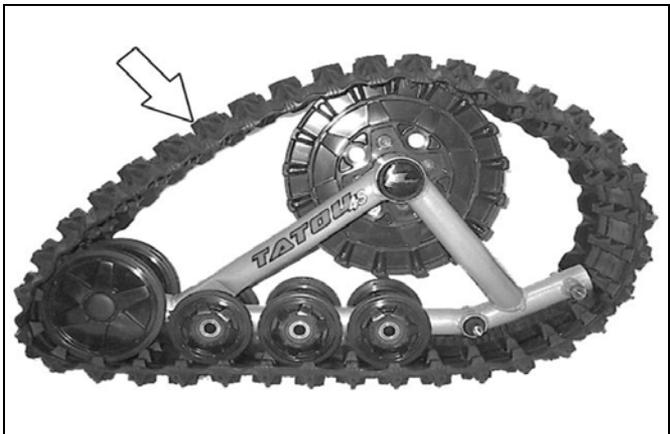

Figure 24
- Install the rubber track (refer to Figure 24).